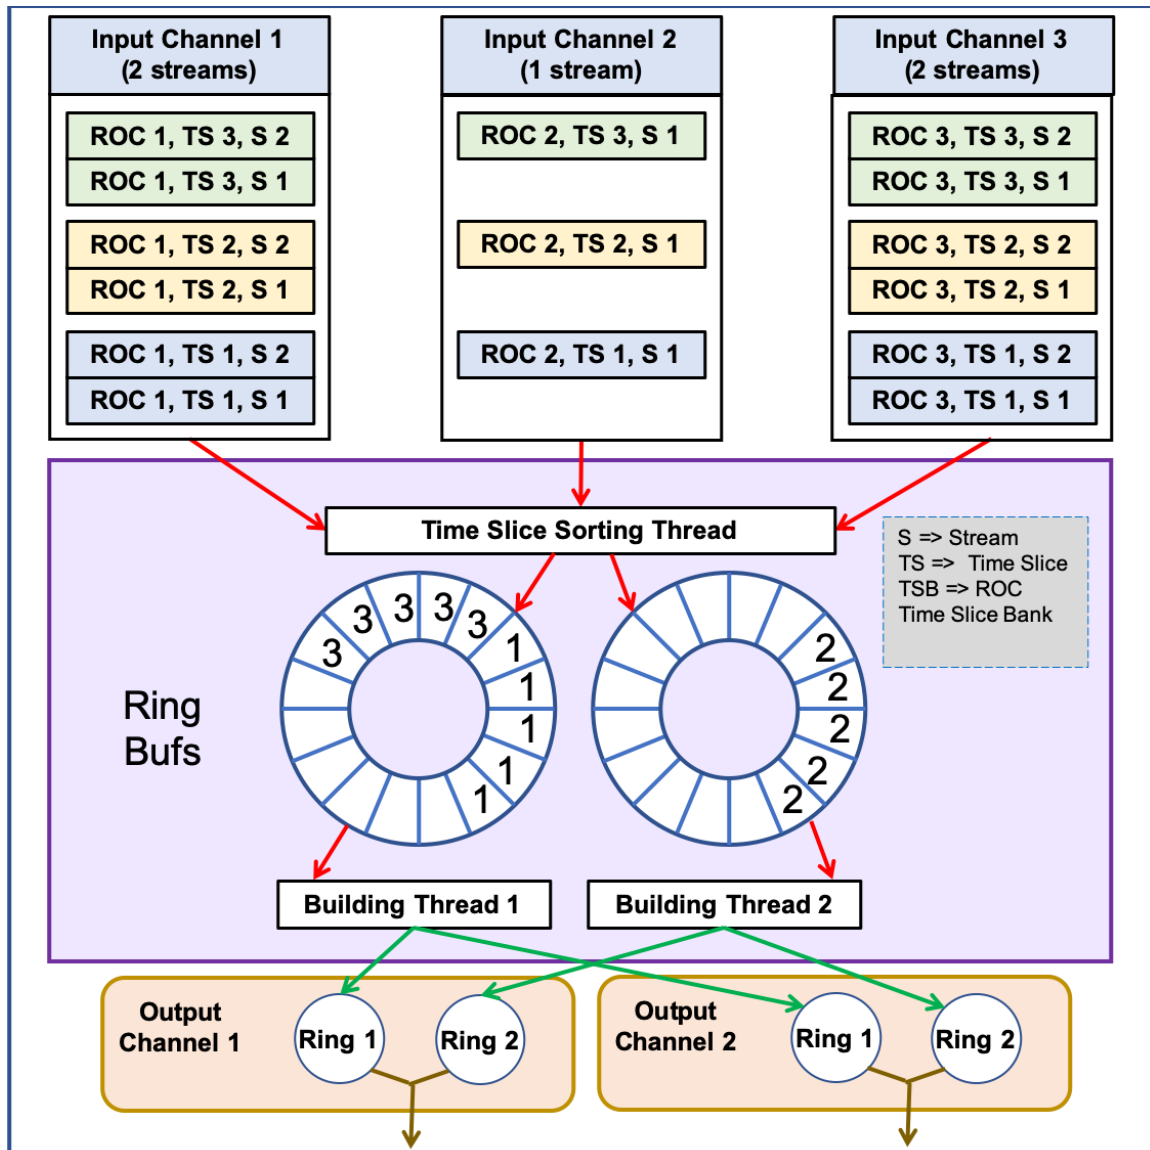

Figure 4.2 Stream Aggregator Internals
The stream aggregator module performs the same function as the event building module but does it for data in the streaming format which is different than the triggered data format. This module can function like a data concentrator (DC) as a first level builder of a 2-stage time slice building. It can also function like a secondary event builder (SEB) as a second level of a 2-stage time slice building. Finally, it can function like a primary event builder (PEB) as a single, stand-alone time slice builder that does a complete build. A rough outline of this module's internal structure is given in Figure 4.2 below: